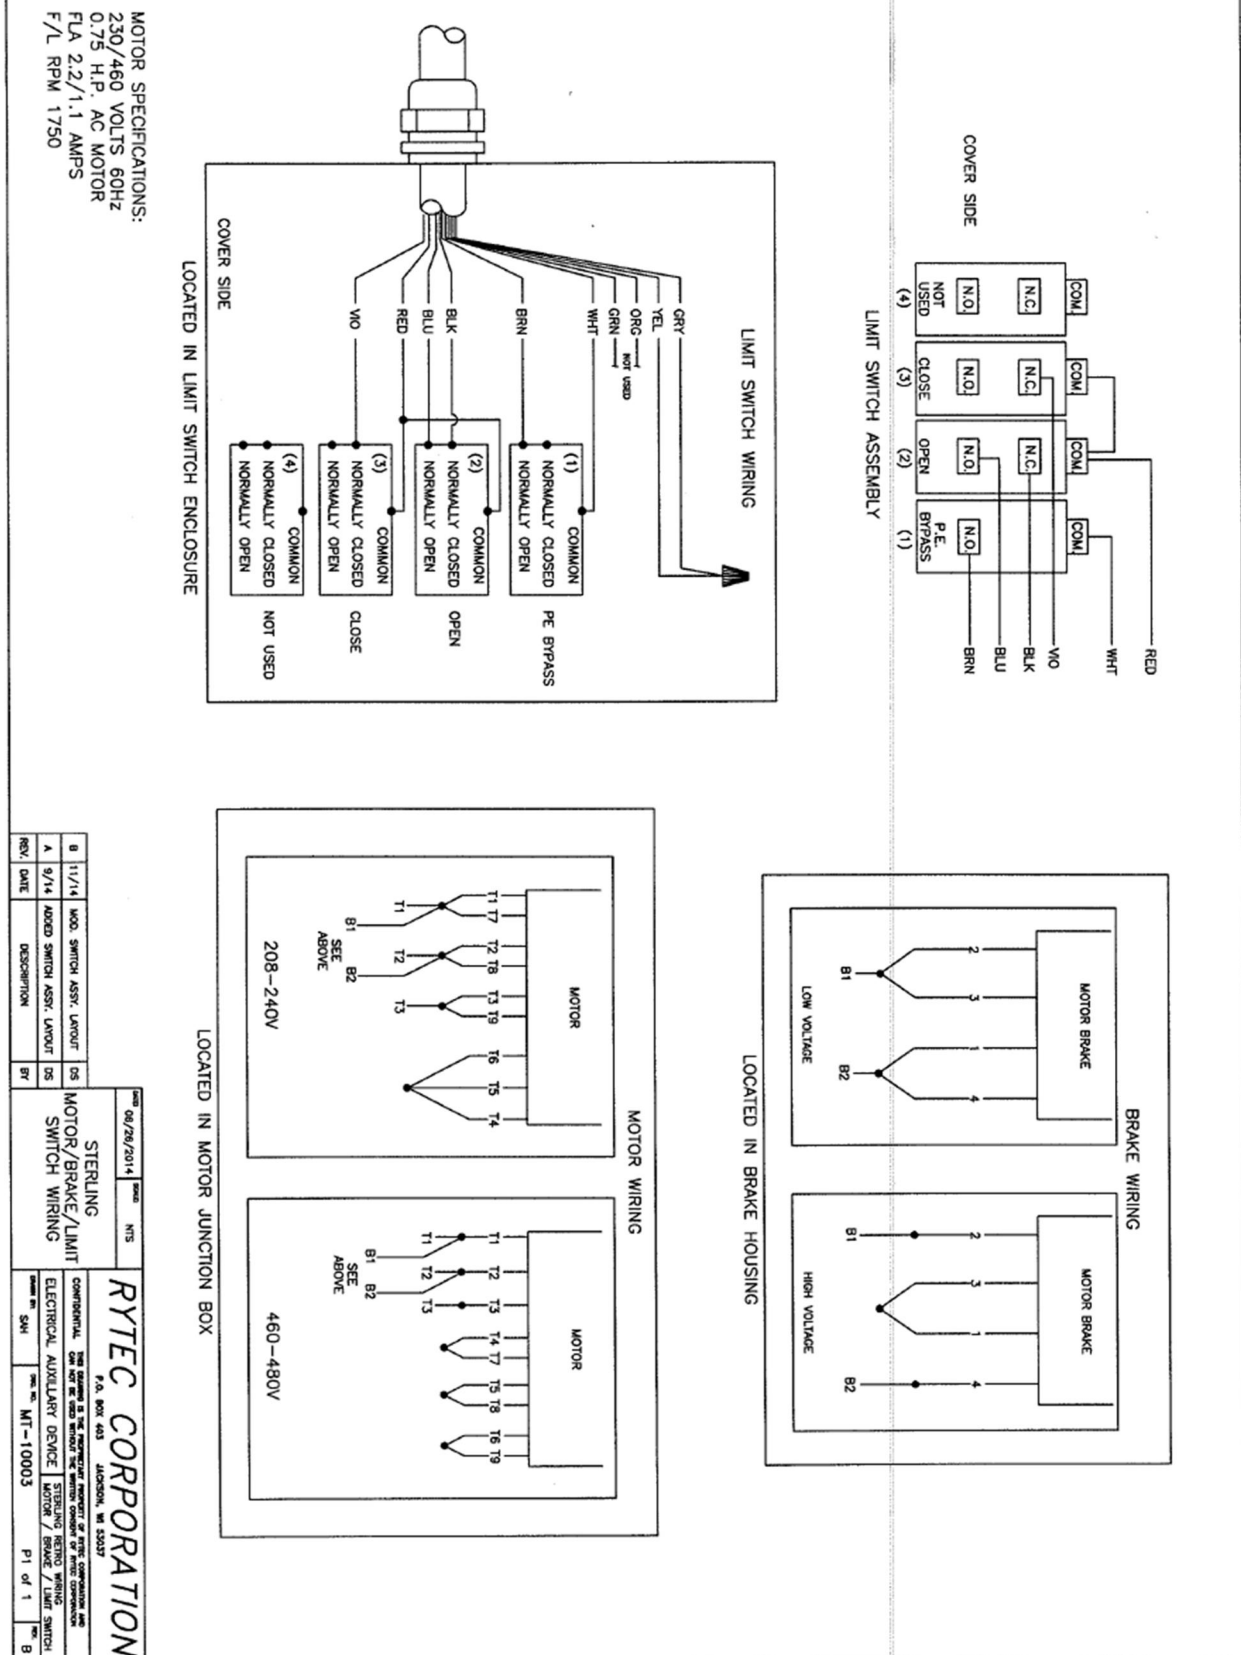

Fig. 5
Step 13. Remove brake cover and verify brake is wired for the proper line voltage per the schematic in Fig. 5